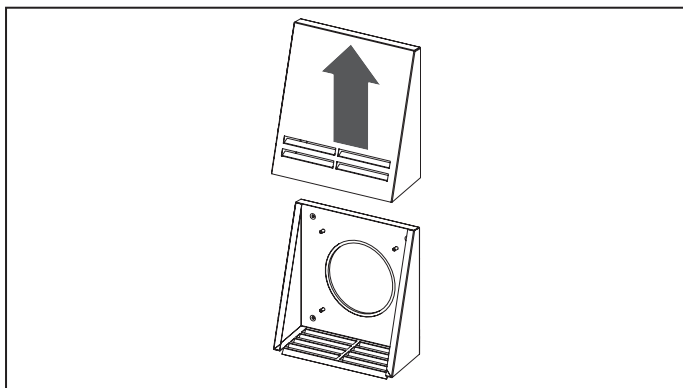

Fig. 12a.
- Fig. 12a – VENTO Ergo A25-1 Pro model. Remove the upper part of the outer ventilation hood.